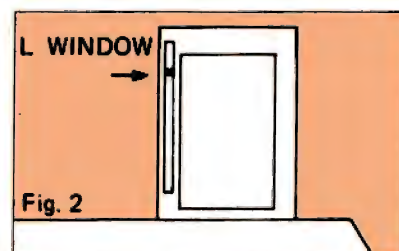

Fig. 2
2. Fill in the 121st blank of L WINDOW. (see Fig. 2)